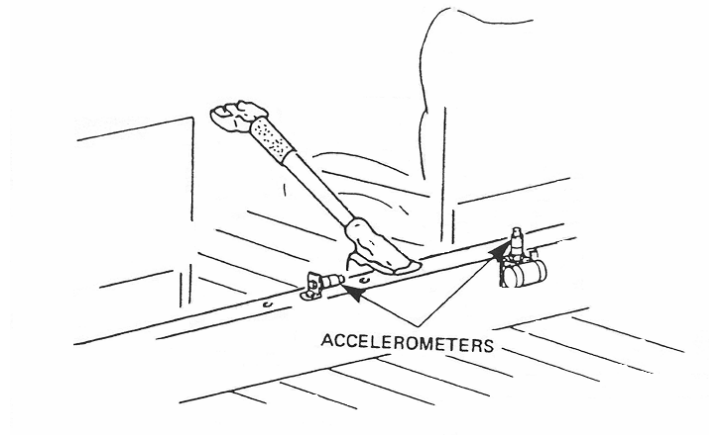

Figure 1
1. Install Sensor Mount (Item 6) between the pilot's and copilot's seats and a second Sensor Mount (Item 6) to upper left nut of the pilot's inertia reel. Secure the first 991D-1 Vibration Sensor (Item 2) to the bracket so that it is perpendicular to the longitudinal axis of the aircraft with connector pointing to the right. Install second 991D-1 Vibration Sensor (Item 2) into bracket so that connector faces up. (Figure 1)